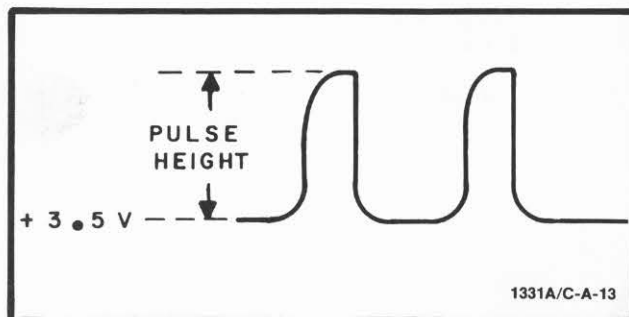

Figure 5-3. Write Depth Waveform
5-56. *Reference.* Schematic 7, table 5-1, figure 5-3, and figure 5-4.
- d. Note waveform similar to figure 5-3. Set write depth adj A5R18B for pulse height of approximately 9.5V p-p.